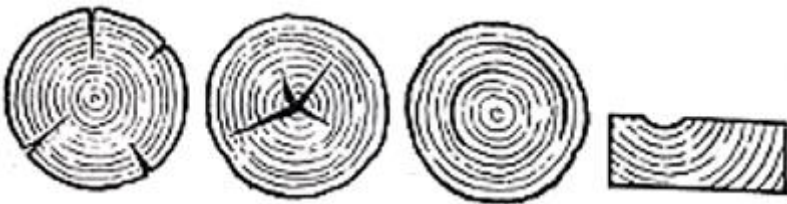

Fig. 9.1: Shakes
**Heart shake.** A split outward from the centre of the tree and along the medullary rays. It is caused by old age. When several heart shakes come together they form a **Star shake**. **Cup shake** is when a young tree bends too much in very high winds, the annual rings may come apart. When this happens a cup shake is made. Too much heat can cause this to happen also. Where a cup shake runs completely round the tree it is called **Ring shake**. **Radial shake** is one starting at the outside of a log and running inwards radially. **Shell shake** is part of a ring shake. In a board it results in a loose rounded section. **Compound shake** is a combination of two or more shakes. Felling shake is the one caused during the process of felling. (see fig. 9.1)